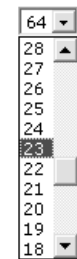

Figure 102. Volume Drop Box
4. Click the **Volume Steps** drop box. A drop down scroll box appears (see figure 102).